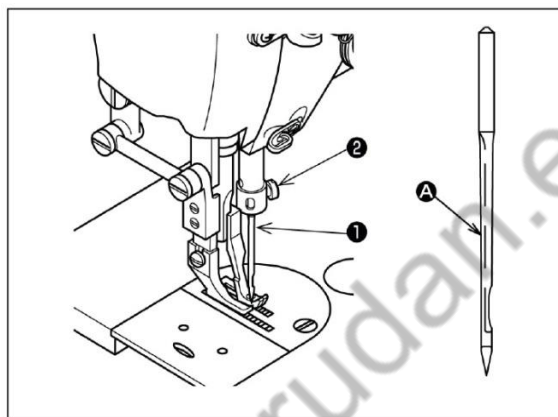

Fig.10
Turn the hand wheel to move the needle bar up to its highest position. Loosen needle clamping screw (2) and hold needle (1) so that long groove A in needle (1) faces exactly to the left. Insert the needle into the needle (1) bar until it will go no further. Securely tighten the needle clamping screw. See fig.10.